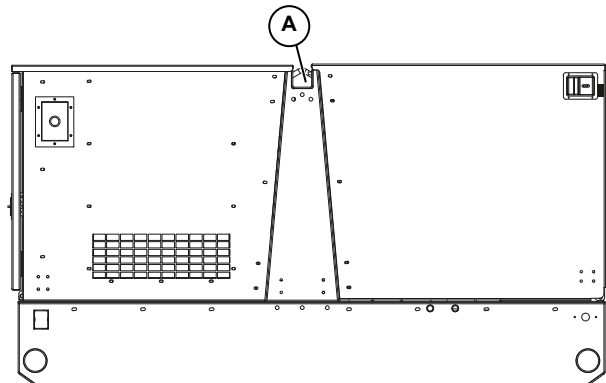

Figure 3-10. Lifting Points
3. See **Figure 3-10**. Attach any slings, chains or hooks directly to the central lift point (A).